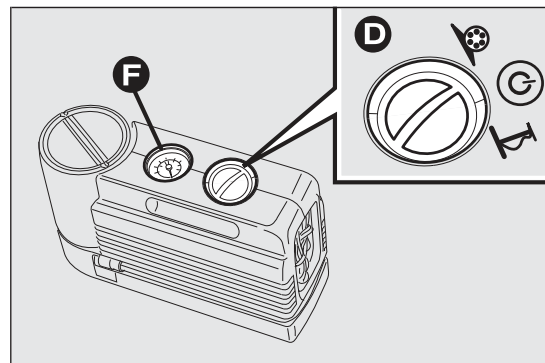
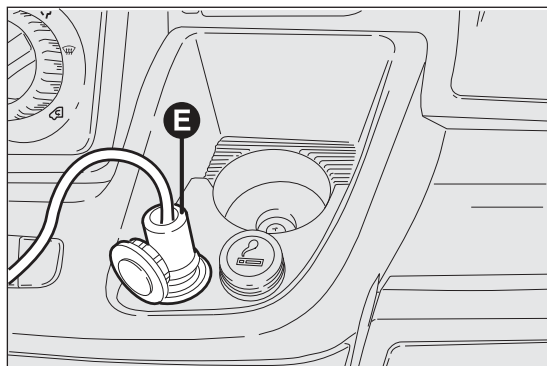

fig. 183
fig. 184
- ☐ insert the plug E fig. 184 in the nearest 12 V power socket and start the engine. Turn the selector D fig. 183 anticlockwise to the repair position. Inflate the tyre to the pressure specified in the "Inflation pressure" paragraph, in the "Technical Data" chapter;
For a more accurate reading, it is advisable to check the pressure reading on the pressure gauge F fig. 183 with the compressor off and without moving the centre selector from the repair position;